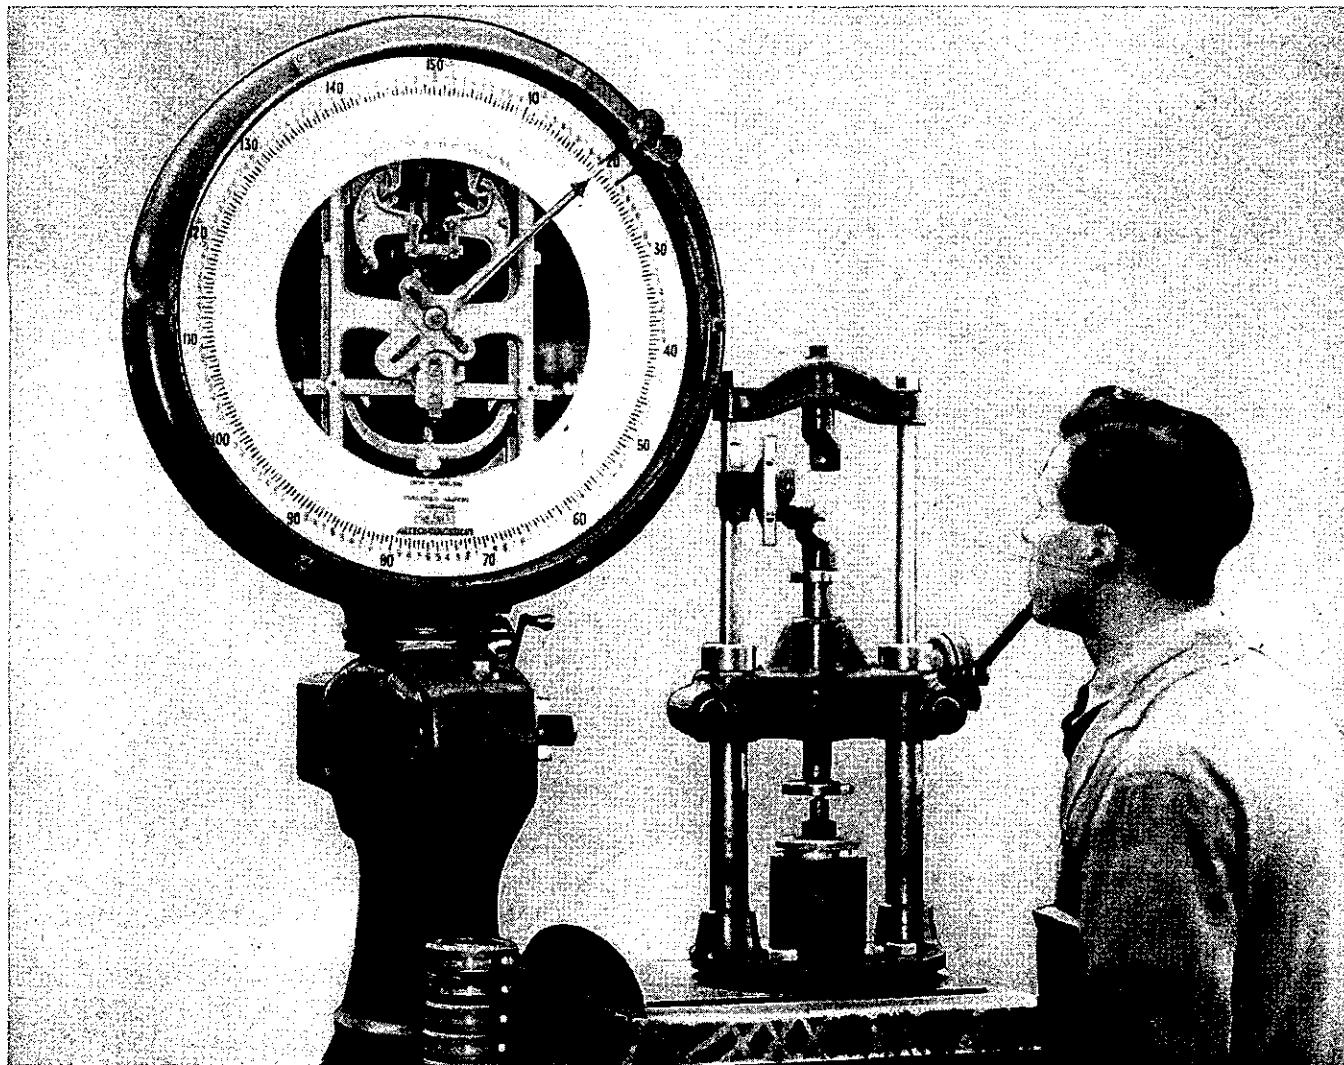
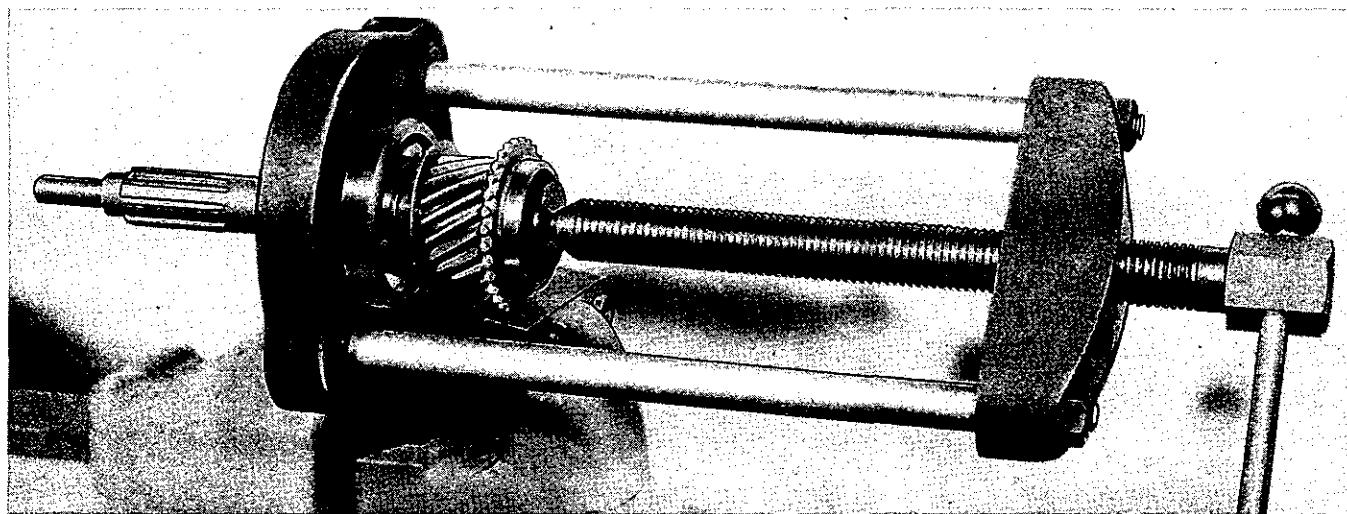
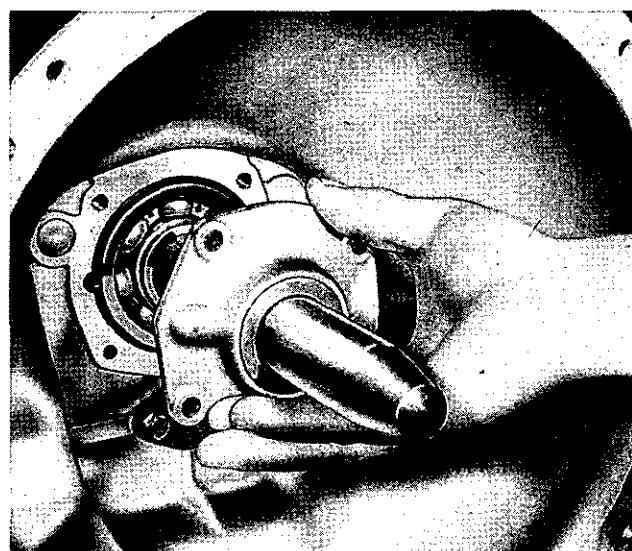
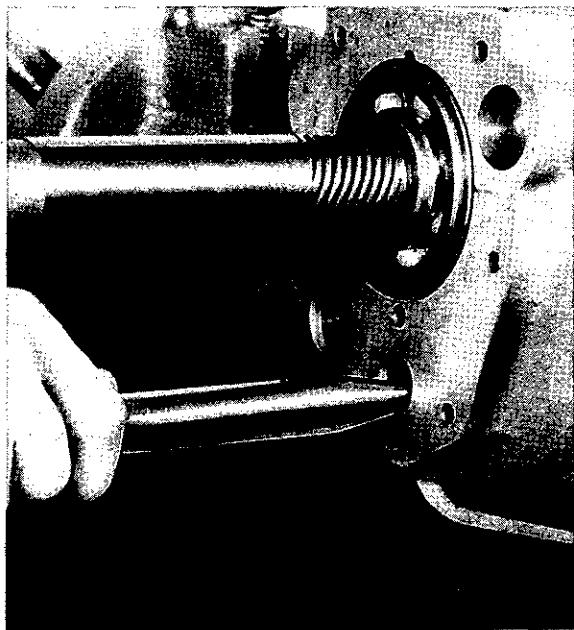

Fig. 25. Testing axial load for synchro release with a spring testing machine
Fig. 26. Fitting constant pinion race with Churchill Fixture 20SM-4615
Fig. 29. Fitting front cover and oil seal with special adaptor, Churchill Tool No. 20SM-47
Fig. 30. Showing pilot tool for aligning countershaft gears and rear thrust washer—Tool No. 20SM-76
must be carried out to increase or decrease loading respectively. The method employed for checking this loading in the factory is illustrated in Fig. 25.
12. Assemble oil thrower on to constant pinion shaft and press ball race on to the shaft as shown in Fig. 26 ensuring that this goes right home and that in this position with the correct thrust washer fitted, the small seeger circlip fits properly into its recess. When passing this circlip along the ground portion of the constant pinion shaft, take care not to score the shaft as such damage may cause subsequent leakage of oil. Fit larger circlip into its recess in the ball race extension.
18. Having fitted front cover oil seal, as shown in Fig. 28, apply cover and packing, utilizing a fitting tool to protect the oil seal as shown in Fig. 29. Fit four setscrews and plain washers with lead wire, after positioning the
20. Utilize a pilot to align thrust washer and countershaft gear, as shown in Fig. 30, driving out needle roller retaining tube and countershaft, which was fitted to position forward thrust washer, with pilot, subsequently ejecting the pilot tool with the actual countershaft. It is important, when carrying out this operation, that the pilot spindle should maintain contact with the retaining tube or countershaft, as appropriate, throughout the operation, alternatively there is danger that the needle rollers may leave their recess.
If doubt exists as to the condition of the coned faces, they should be lapped in together, employing burnishing paste and holding the cup on the special spiggotted fixture shown in Fig. 30. All traces of paste should subsequently be removed with a petrol-moistened rag. Carburundum paste should NEVER BE EMPLOYED for this lapping-in process. If the baulk pin spring has become damaged it should be replaced. Where difficulty arises with synchronization of the "second" and "top" gears, the usual explanation, as previously stated, will be the incorrect spring loading of the operating sleeve and for this reason should first receive attention. The correct axial loading for this operating sleeve should be between 19 and 21 lbs. and can be checked on a spring testing machine, employing a suitable ring fixture to support the unit such as shown in Fig. 26, or, alternatively, more simply as indicated in Fig. 25.
be necessary to remove the gearbox and withdraw the front cover and to fit a new oil seal with the tool shown in Fig. 29 and to use protective sleeve, shown in Fig. 30, when replacing cover.